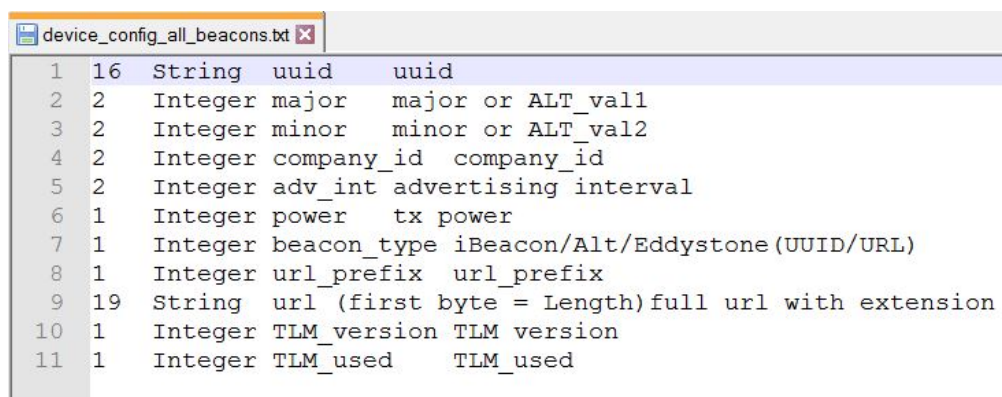

Figure 97: Device Config Struct Format in .txt File
- In the next screen, press button  on the left to open the Proprietary Header Programmer. The mkimage folder should contain a device_config_all_beacons.txt file (see Figure 97).